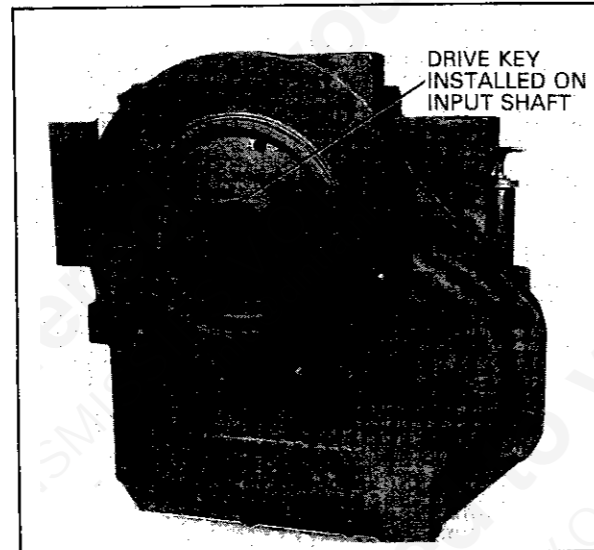

FIG. 49 PUMP KEY INSTALLATION
58. Install the pump key into the keyway of input shaft (Fig. 49).